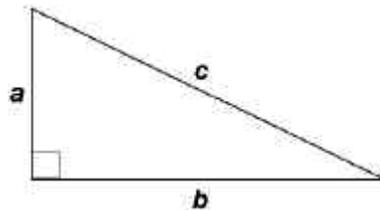

Figure 3: Right angle triangle
Questions 39 – 40 refer to the right angle triangle shown in Figure 3
40. In Figure 3, if the length of side c is 5 metres and the length of side b is 4 metres, what is the length of side a ?